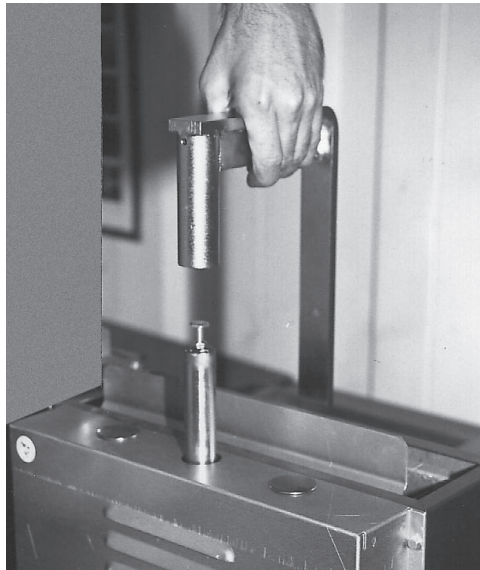

Fig. 55
3. Remove the basket lift arm. (Fig.55)